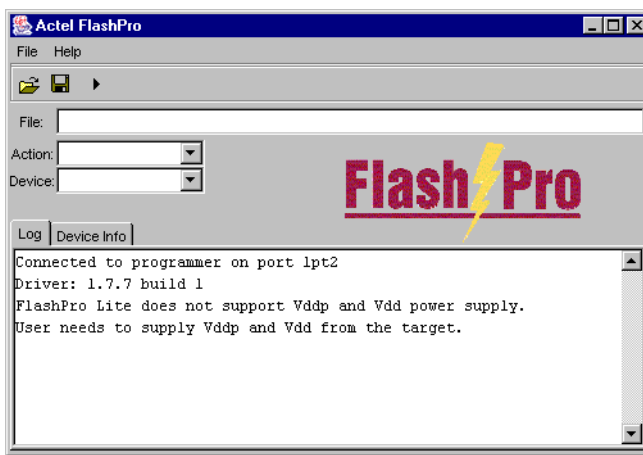

Figure 3-2. FlashPro: Successful Connection
4. Click *Connect*. A successful connect or any errors appears in the Log window, as shown in Figure 3-2. If you encounter failures, please refer to “Error Messages & Troubleshooting Tips” on page 89 for more information.